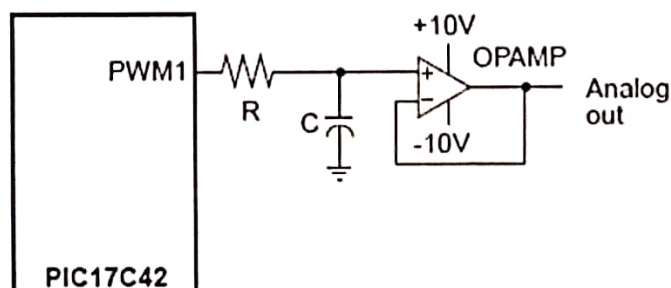

Figure 4: PWM Digital-to-Analog Conversion
- b) Consider that the PIC17C42 microcontroller chip in Figure 4 can generate PWM frequencies of up to 62.5 kHz. [8 marks]